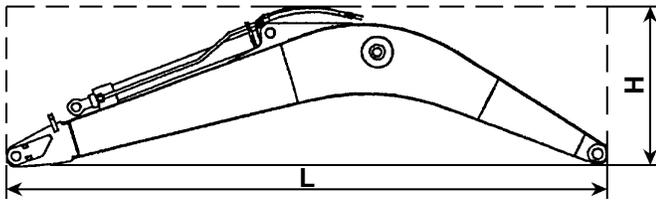

FIGURE 5.9A
1. Boom With Arm Cylinder - Figure 5.9A